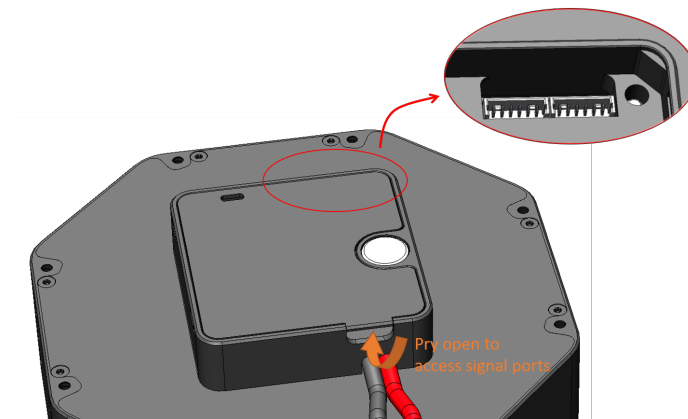

Figure 4: Panda BEAR Signal Ports
- **Electrical Features** PB02 has one XT60 power port, and two Molex PicoBlade 53047 6Pin signal ports. Pry open the back cap to access the signal ports, as instructed in figure 4. The two signal ports make it convenient to connect multiple BEAR modules in serial. Power supply voltage for PB02 ranges from 9V to 48V.